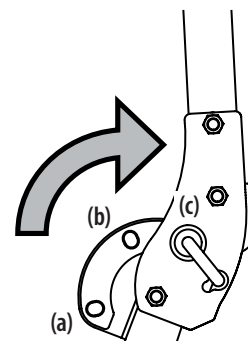

Figure 4
2. When both locking pins are secured in the ADJUSTMENT position, slowly lift and rotate the upper ROPS from the TRANSPORT (a) position, past the TRANSPORT WITH BAGGER (b) position and into the OPERATION (c) position. See Figure 4.